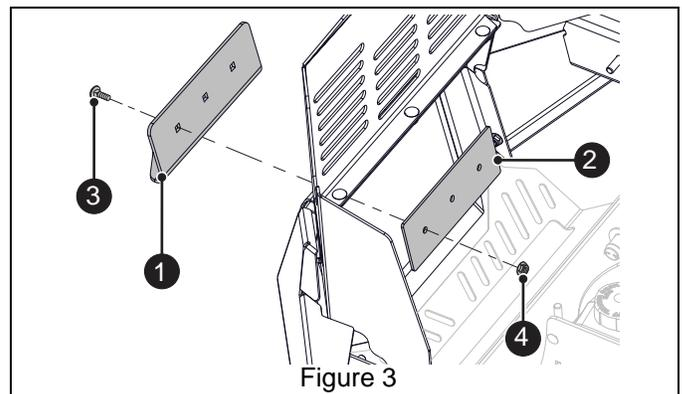

Figure 3
8. Position front hitch plate (item 1) on outside of bumper and hitch backer plate (item 2) on inside of bumper. Secure hitch plates with three 5/16 x 3/4" round head square neck bolts (item 3) and three 5/16" flange nuts (item 4). Tighten hardware. See Figure 3.